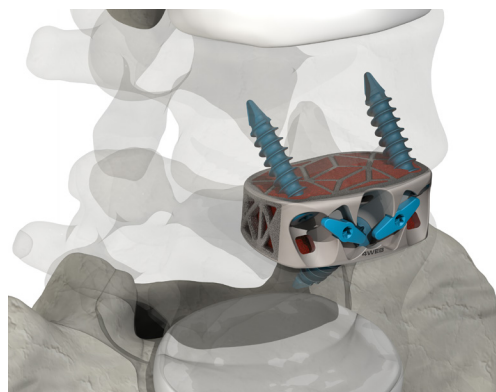

Figure 26
- ▲ Inspect implant for correct position and assembly and confirm with fluoroscopy (Fig. 26).